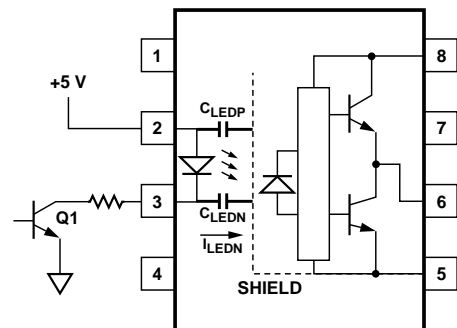

Figure 24. Not Recommended Open Collector Drive Circuit.
**Step 1:** Calculate Rg minimum from the IOL peak specification. The IGBT and Rg in Figure 24 can be analyzed as a simple RC circuit with a voltage supplied by the HCPL-314J.
The open collector drive circuit, shown in Figure 24, can not keep the LED off during a  $+dV_{CM}/dt$  transient, since all the current flowing through CLEDN